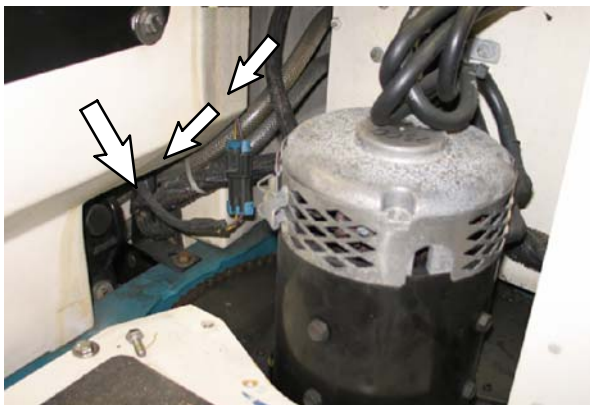

FIG. 7
8. Route both 45" (1140 mm) hoses from the operator compartment, along the main harness (away from the actuator and other moving parts), and down to the scrub head. Refer to Fig. 7.